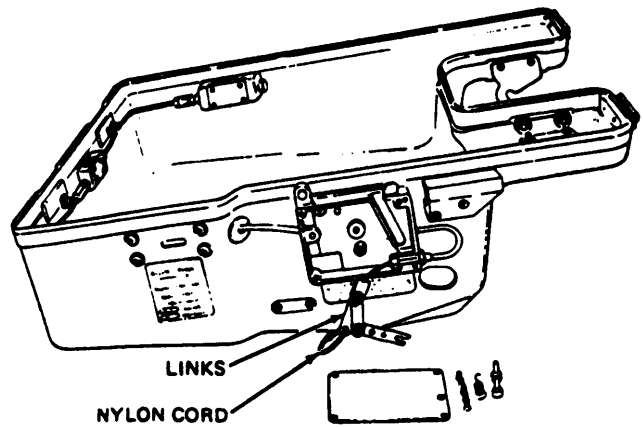

Figure 7-6.—Tying links together.
4. Thread approximately 5 inches of nylon cord, MIL-C-5040, through "LINKS" and tie both ends together (fig. 7-6).